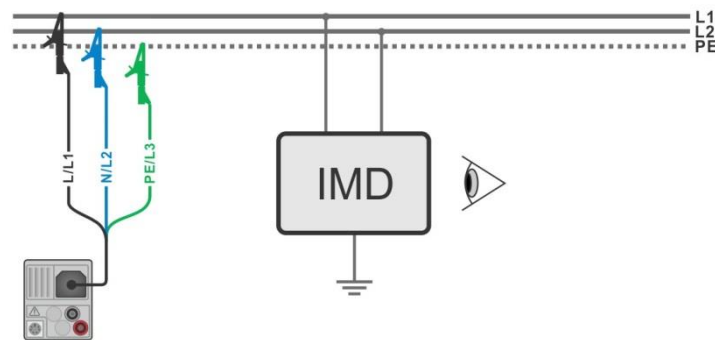

Figure 7.103: AUTO IT measurement
- › Connect test leads to the object under test, see **Figure 7.103**.